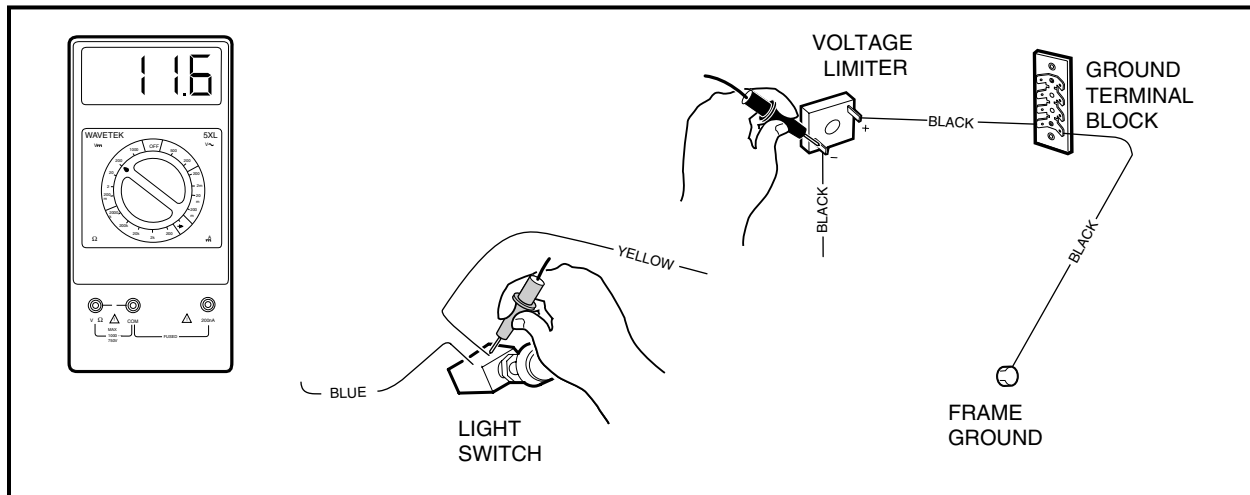

Figure 11b-61 Testing the Voltage Limiter
3. Using a multimeter set on 20 volts DC, connect the red (+) probe to the light switch terminal with the yellow wire (**Figure 11b-61, Page 11b-49**).
4. Loosen the black wire connector (on the end of the long black wire) at the voltage limiter assembly just enough to maintain the connection and yet expose part of the metal terminal in the connector. Place black (–) probe on the connector (**Figure 11b-61, Page 11b-49**). **See following CAUTION.**